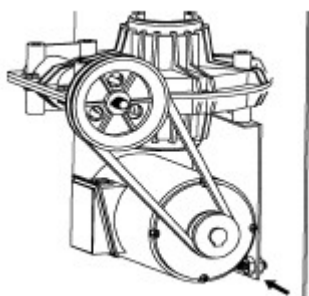

Fig 11
**Remove the left side cover by unscrewing the screws; adjust two screws located on the motor support, keep a suitable distance between motor support and motor base; tight the screws for the belt tension.(Fig 11)**